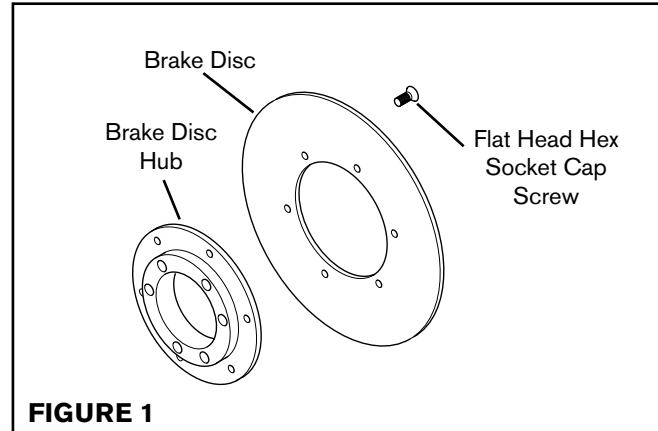

FIGURE 1
1. Apply a drop of Loctite® 242 to the threads of the six Flat Head Hex Socket Cap Screws provided with the Brake Disc and secure the Brake Disc to the Brake Disc Hub or to a customer-supplied hub (See Figure 1).
2. Alternately and evenly tighten the six Flat Head Hex Socket Cap Screws to the recommended torque (See Figure 1 and Table 1).